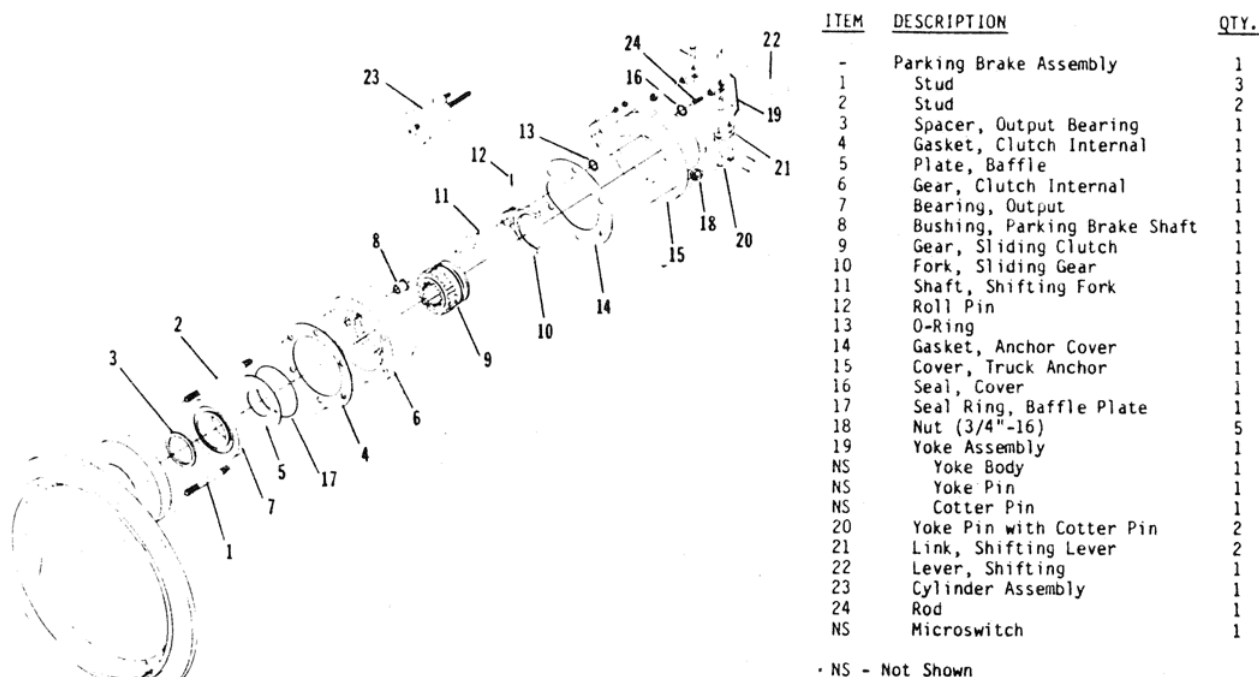

FIGURE 13
C. Parking Brake Installation - Figure 13.